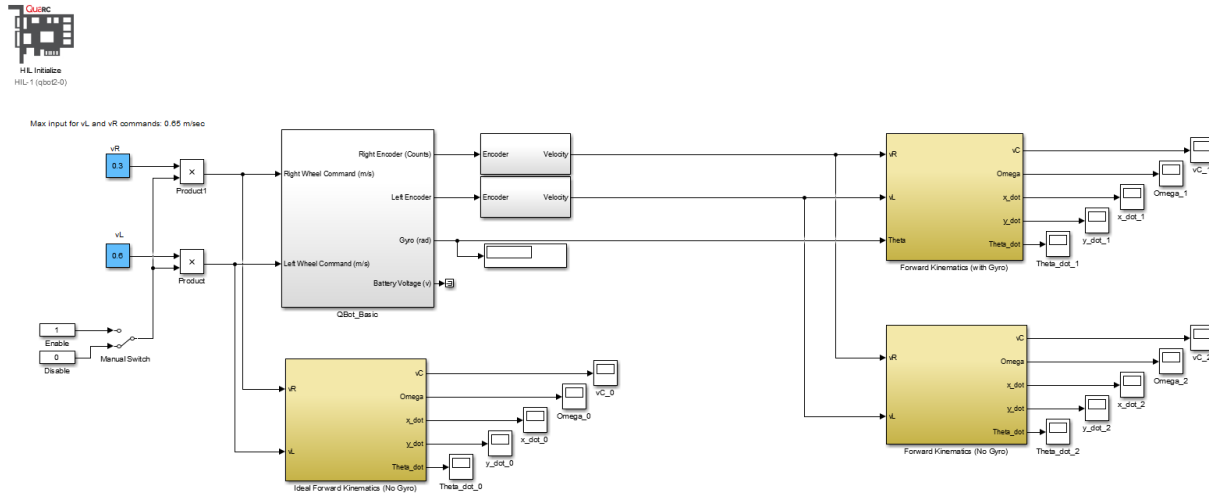

Figure 2.1: Snapshot of the controller model “QBot 2_Forward_Kinematics.mdl”
The controller model for this exercise, shown in Figure 2.1, is called “QBot 2_Forward_Kinematics.mdl”.
1. Wait 5 seconds until the QBot 2 has fully initialized, and then enable the movement of the robot using the manual switch shown in Figure 2.1.